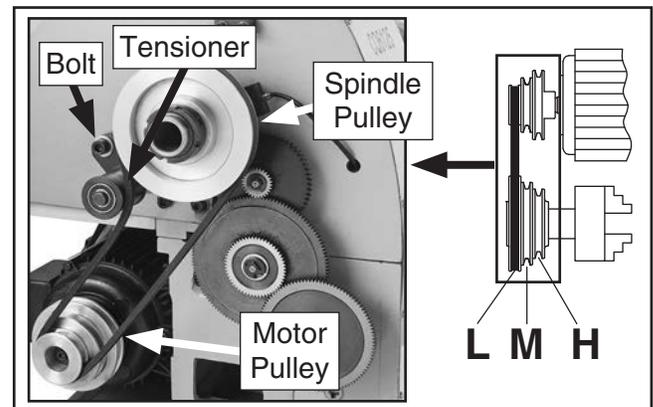

Figure 62. Positioning belt for low speed.
The V-belt is positioned on the spindle and motor pulleys with the tensioner (see **Figure 62**) to select between low (100-800 RPM), medium (160-1300 RPM), and high (250–2000 RPM) speed ranges.
3. Move the V-belt to the outer pulley sheaves to select the low speed range (100-800 RPM), as shown in **Figure 62**.